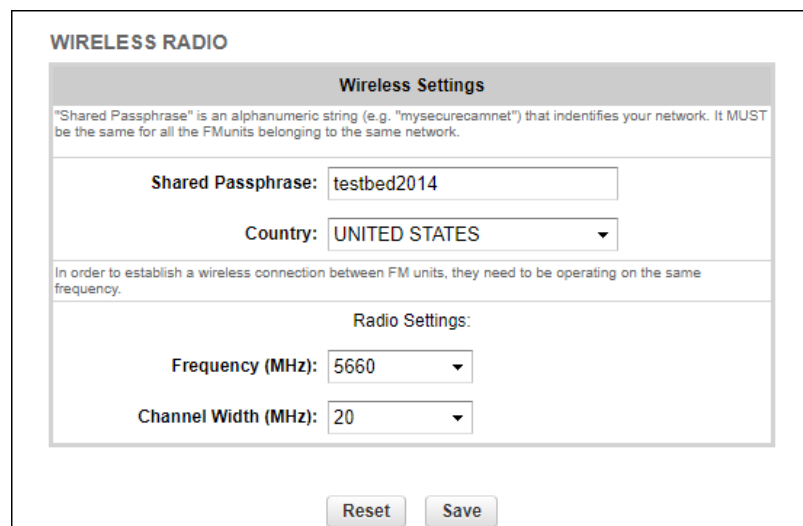

Figure 25. Configurator GUI (Wireless Radio dialog)
- The **WIRELESS RADIO** dialog will be shown (Figure 25 \(page 74\)).